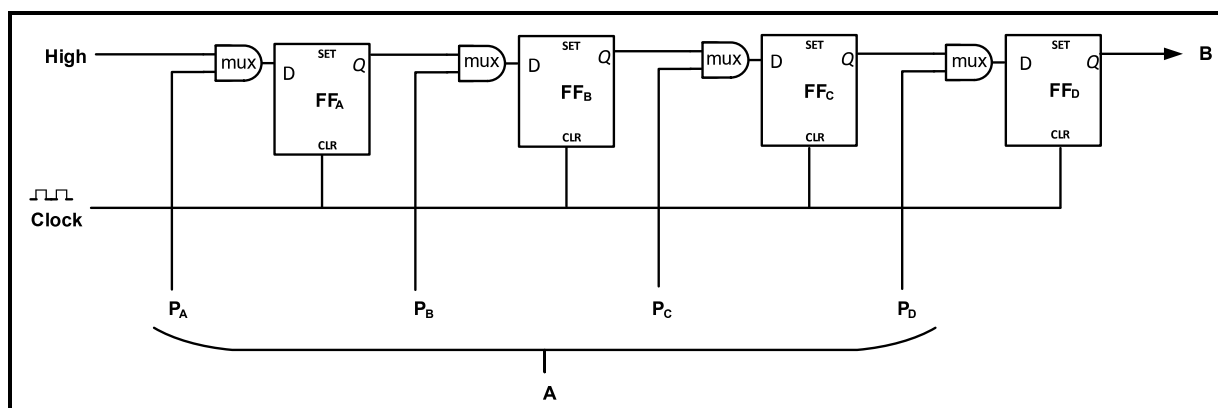

FIGURE 5.8
- 5.8 Refer to FIGURE 5.8 below and answer the questions that follow.
5.8.1 Identify the register in FIGURE 5.8. (1)